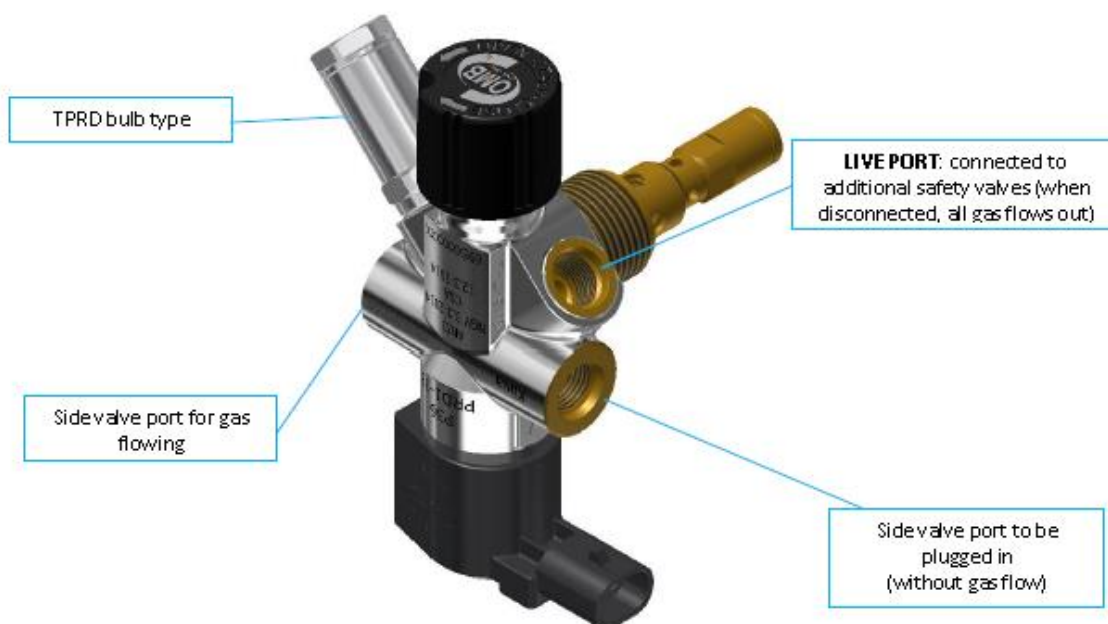

Figure 1: 3D drawing depicting the ESA valve.
4. Connect a pipe on the side valve for gas flowing (Figure 1). The other end of this pipe must be fixed in a convenient place, considering the path of the outflowing gas (this decision is taken under the customer's responsibility). Plug the other side valve connection (Figure 1).